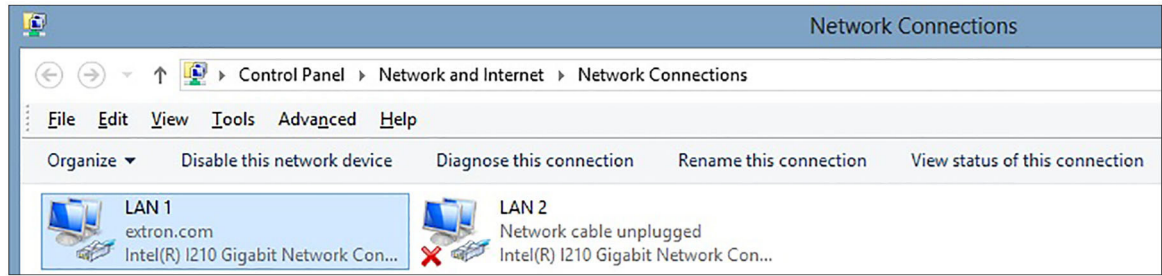

Figure 63. Selecting a LAN Port
4. On the LAN properties dialog box, scroll to locate and select the **Internet Protocol Version 4 (TCP/IPv4)** checkbox (see figure 63, ①), and click the **Properties** button (②).